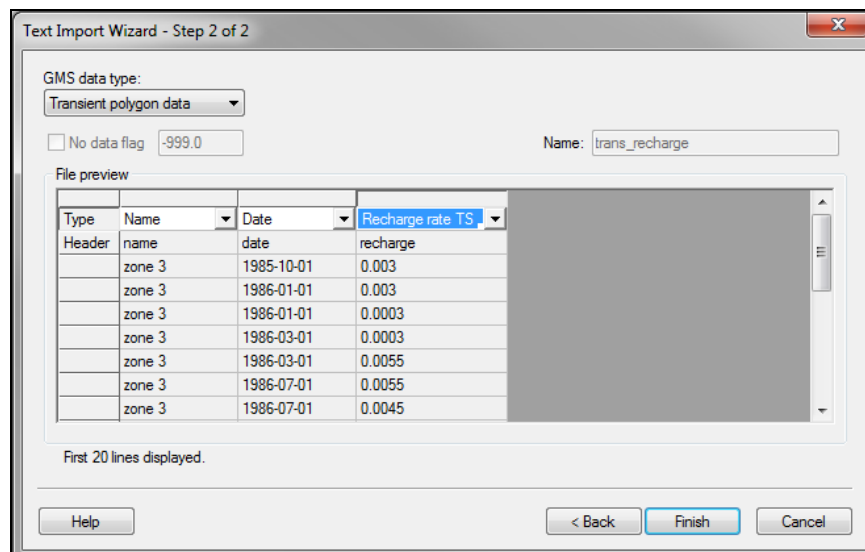

Figure 5 Step 2 of 2 page of the Text Import Wizard dialog
- Below the *File import options* section, turn on *Heading row* and click the **Next** button to go to the *Step 2 of 2* page of the *Text Import Wizard* dialog (Figure 5).